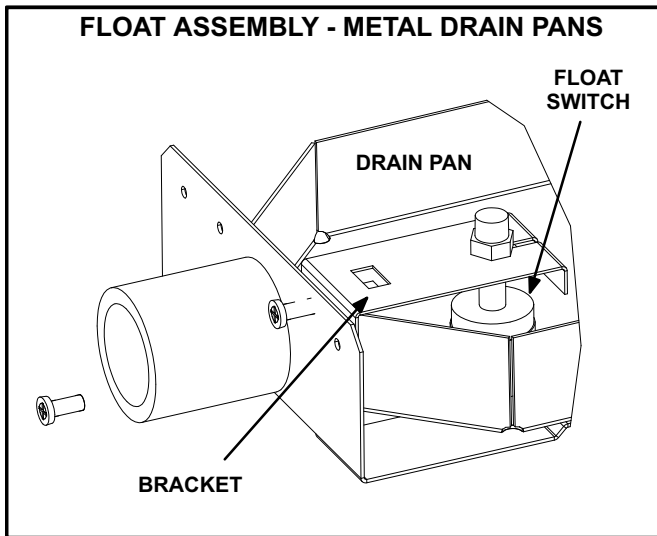

FIGURE 3
- 3- Secure float switch to bracket. See figure 1. Secure bracket to drain pan. See figure 2 for plastic drain pans and figure 3 for stainless steel drain pans.